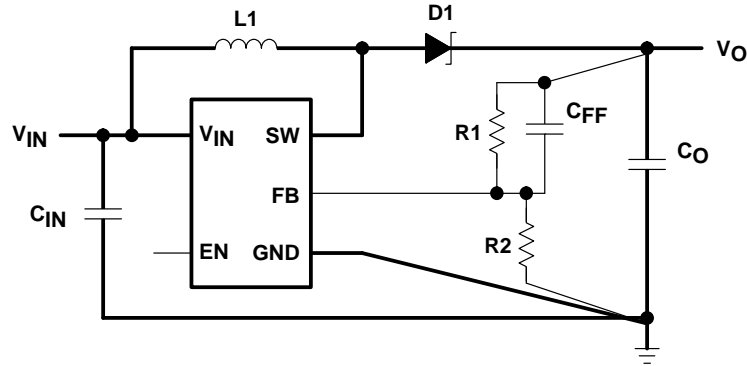

Figure 15. Layout Diagram
**Table 1. Recommended Inductor for Typical LCD Bias Supply (see Figure 15)**
**Table 3. Recommended Schottky Diode for Typical LCD Bias Supply (see Figure 15)**
Wide traces should be used for connections in bold as shown in Figure 15. A star ground connection or ground plane minimizes ground shifts and noise.